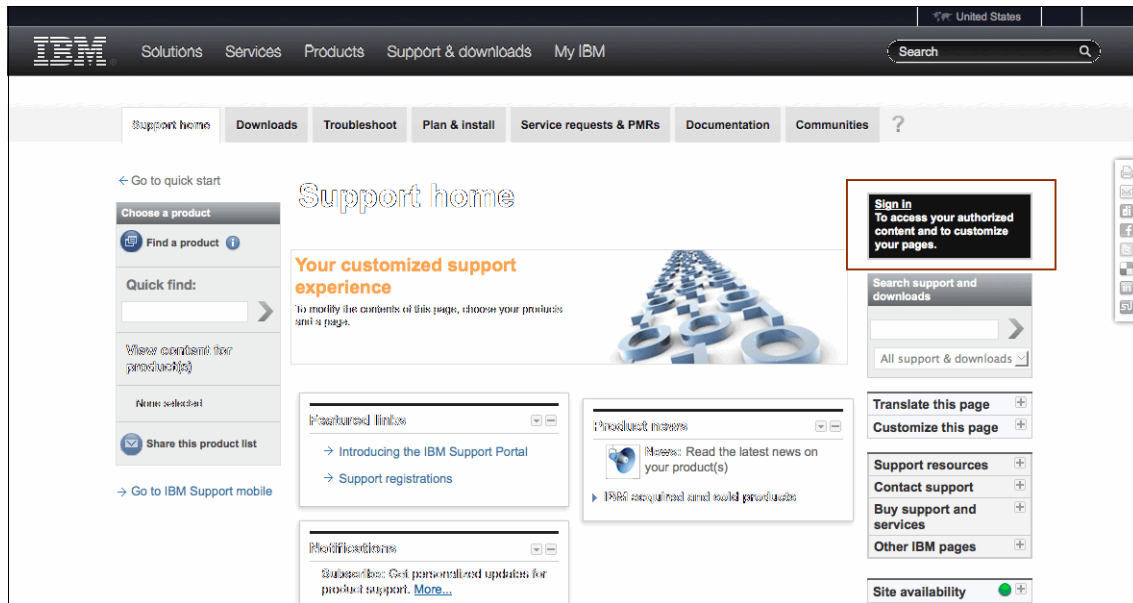

Figure 6-39 IBM Electronic Support website; Sign in with your IBM ID
2. When you register your HMC successfully, revisit the website and log in to access the eService and **Sign in** (Figure 6-39):